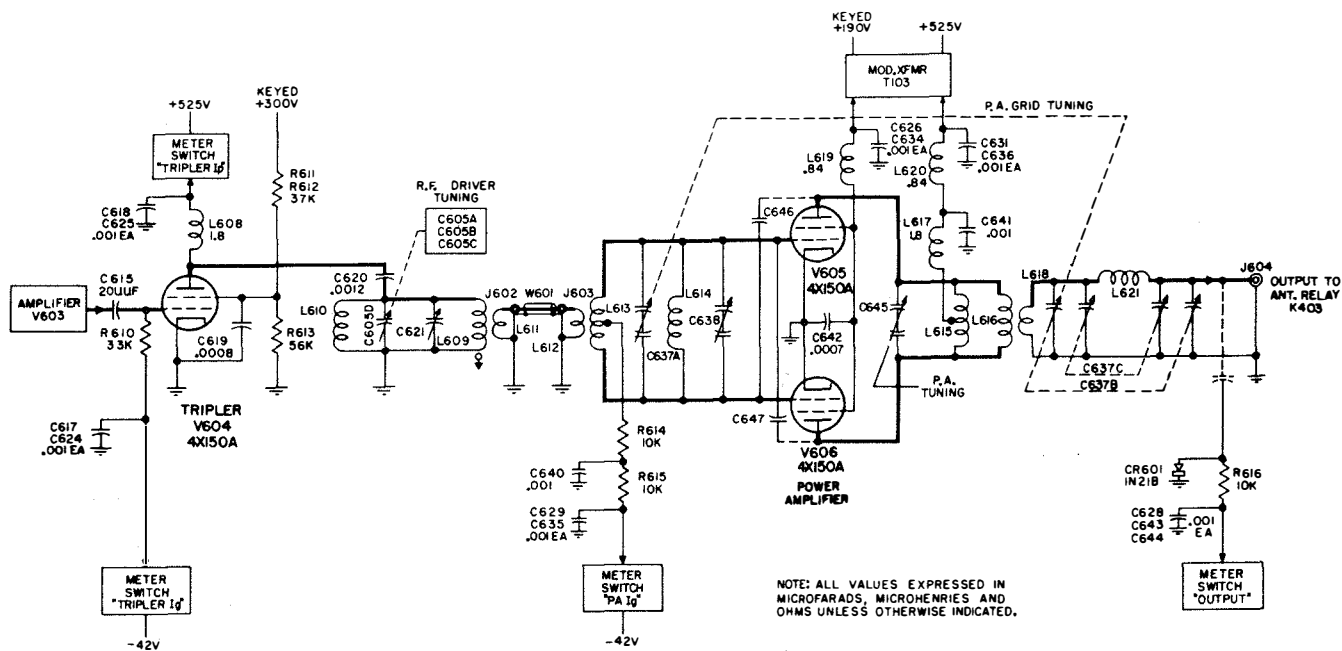

Figure 2-4. Tripler and Power Amplifier Stages, Simplified Schematic Diagram
(4) **TRIPLER.**-- A 4X150A tetrode amplifier tube is used as a frequency tripler and appears in the simplified schematic of figure 2-4. Protective bias of -42 volts is applied to the grid via the meter-switching circuit in the Power Supply; the meter measures grid current when its associated switch is in the TRIPLER I_g position. Additional bias for Class C operation is
(5) POWER AMPLIFIER.—The power amplifier employs two 4X150A tetrodes in a push-pull plate-and-screen modulated circuit; see figure 2-4. Excitation from tripler V604 is coupled into the grid circuit by L611, L612, and W601. The grid tank comprises L613, L614, C637A, and C638. C637A, a split-stator section of ganged capacitor C637, functions as the P. A. GRID TUNING control. C638, also a split-stator capacitor, is used to make alignment adjustments, as is L614. Grid-leak bias is developed across resistors R614 and R615, while protective bias of -42 volts is fed to the grid via the meter circuit in the Power Supply. When the meter switch is in the PA I_g position, PA grid current is monitored by the meter. The grid-return circuit is filtered by r-f bypass capacitors C640, C629, and C635.
(6) OUTPUT FILTER.—An output filter network is included in the equipment to help prevent undesired frequencies, developed in the frequency-multiplier stages, from reaching the antenna and being radiated. As shown in figure 2-4, the output of the power amplifier is coupled into the filter circuit by L618. The configuration of the filter is that of a pi-network in which L621 forms the series inductive element and capacitive shunt elements. Both capacitors are split-stator types, having their rotors grounded; C637B is ganged with P. A. GRID TUNING capacitor C637A and tunes the filter over the range 115 to 156 megacycles. Tracking between C637B and C637A is accomplished by trimmer capacitor C637C. Output from the Amplifier-Oscillator unit is directly coupled to J604 from L621.
(7) OUTPUT MONITOR.—The output monitor circuit provides a relative indication of output power on the front-panel meter when the meter switch is set to OUTPUT. The reading obtained is not an absolute indication, since it will vary with frequency, increasing as the frequency increases; it will also vary with changes in loading and with the standing-wave ratio on the line to the antenna.